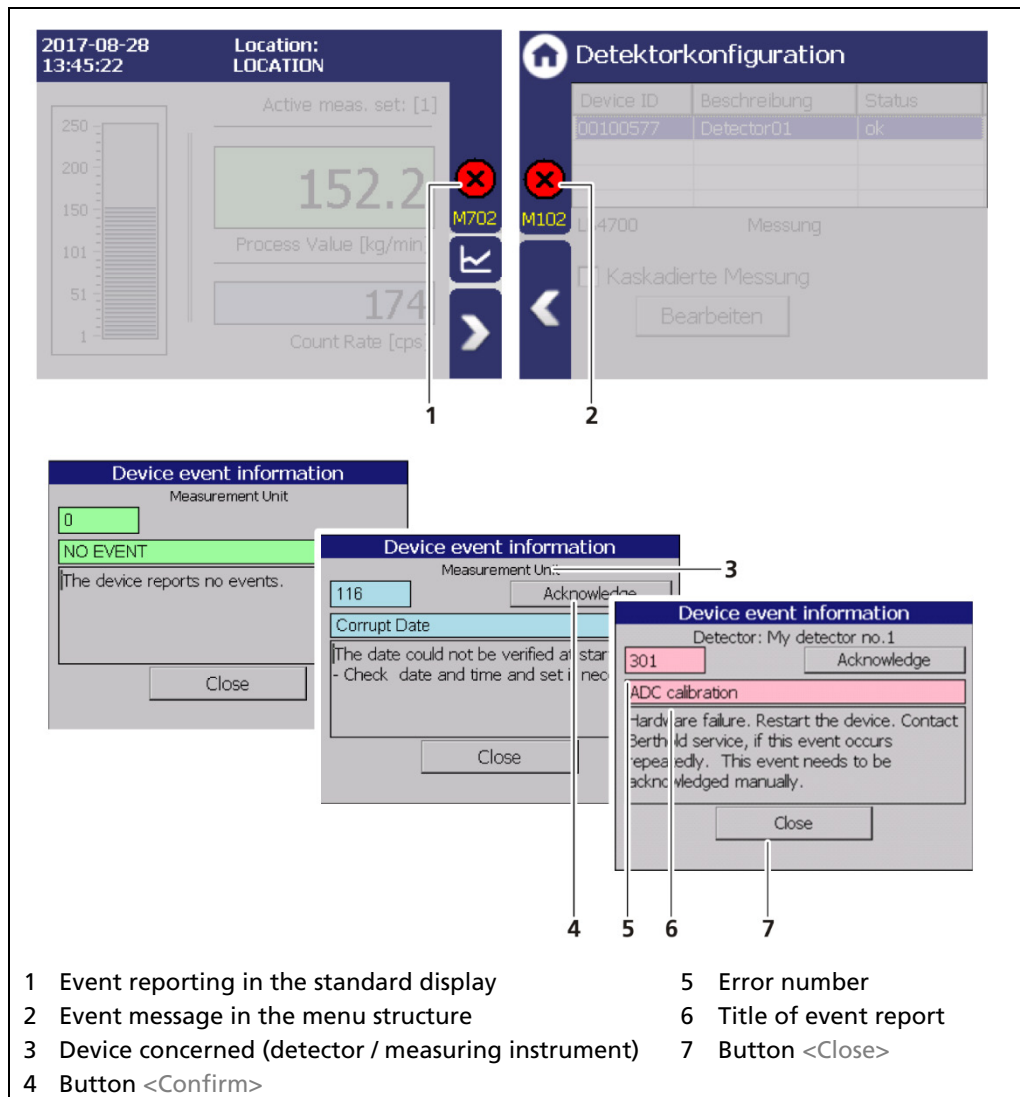

Fig. 30 Event reports (examples)
1. Click on the icon (Fig. 30, item 1, item 2) to display detailed information about the event.